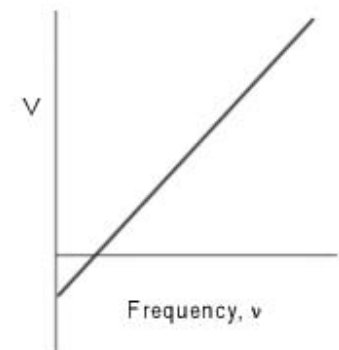

Fig. 1: Stopping Potential,  $V$ , versus Frequency
Einstein's theory predicts that if the frequency of the incident light is varied, and the 'stopping' potential,  $V$ , is plotted as a function of frequency, the slope of the line is  $h/e$  (see Figure 1).
- The slope of a plot of stopping potential versus frequency is the value of the ratio,  $h/e$ . See Figure 1.